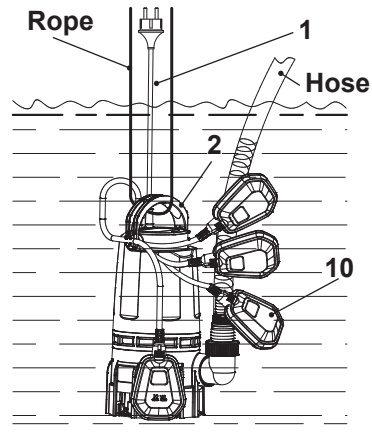

Fig. 4
4. Fasten a rope to the carry handle (2) and submerge the product carefully into the water reservoir (Fig. 4).